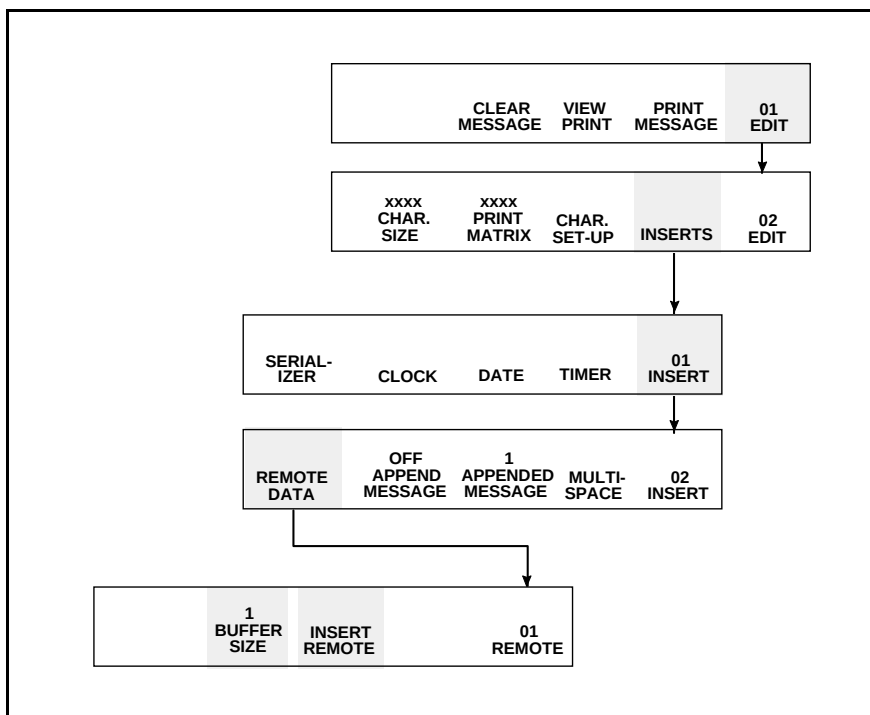

Figure 6-40. Accessing Frame <01 REMOTE>
1. Begin in Frame <01 REMOTE>. Refer to Figure 6-40.